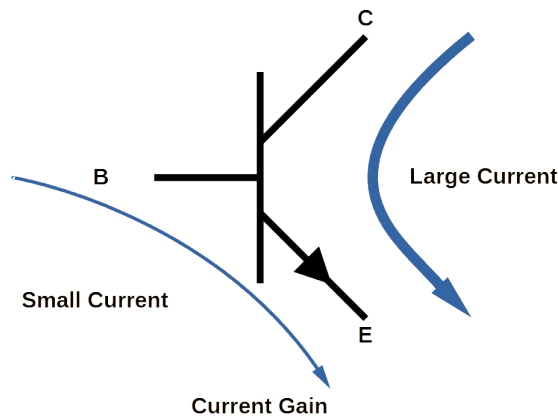

Figure 31: NPN Transistor Current Gain
- i. In an NPN transistor, current flows into the Base and Collector and out of the Emitter as shown in Figure 31